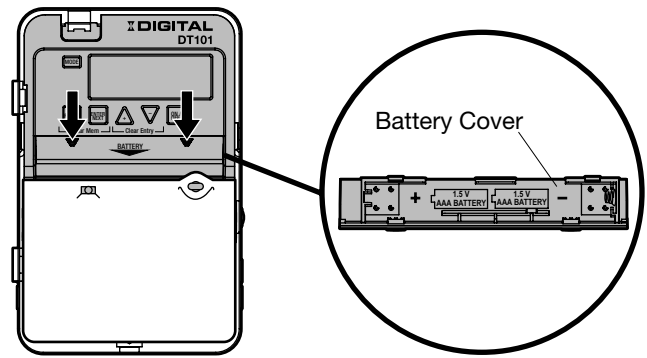

FIG. 6 Inserting Batteries
1. Remove the battery case by sliding it down as shown by the arrows, then install two AAA alkaline batteries. Make sure the batteries are pointing in the direction shown in FIG. 6.